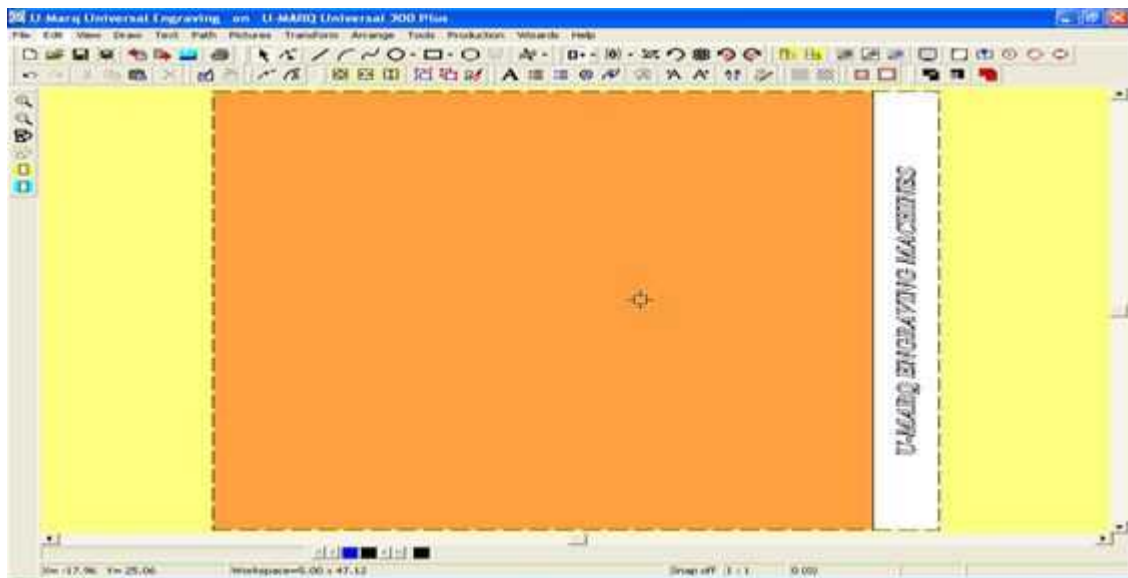

Figure 7
- 6 Your design will now have been swapped to show how the text will be engraved on the ring, see Figure 7.